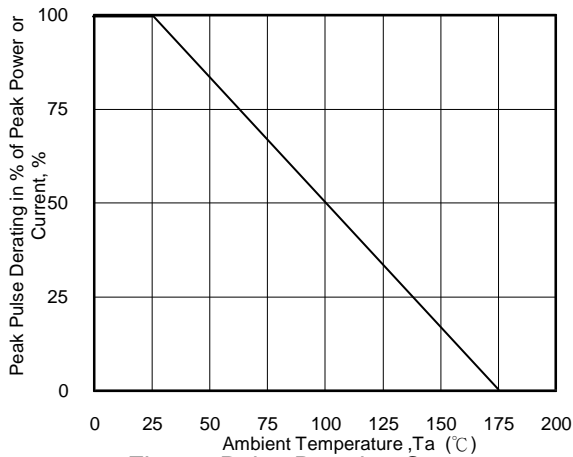
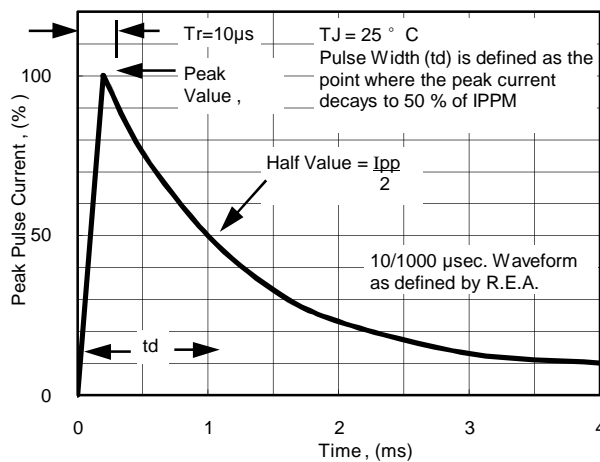

Fig. 1 - Pulse Derating Curve
Fig. 4 - Pulse Waveform
2. Non-repetitive current pulse, per Fig.4 and derated above TA=25°C per Fig1